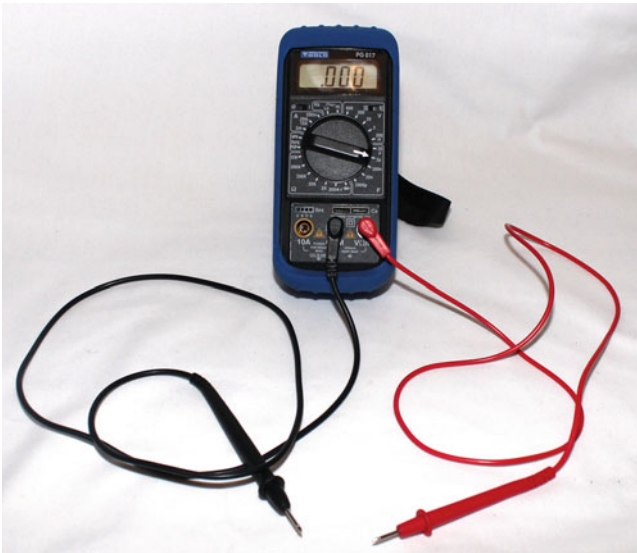

Figure 10-10. *Multimeter*
A multimeter is a test tool that can take a number of different measurements on an electronic circuit. These can vary in price considerably depending on the required functionality and accuracy. My primary multimeter is a reasonable quality meter shown in Figure 10-10. A less expensive meter should be sufficient for most purposes, although I recommend looking for one with an audible connectivity tester (sometimes missing from the cheaper ones). It's not essential but can make it a little easier when you don't have to look at the screen when testing for a broken connection.
- **Other measurements**—Some multimeters also include additional features. The one shown in Figure 10-10 includes a transistor tester, capacitor measurement, and frequency setting.